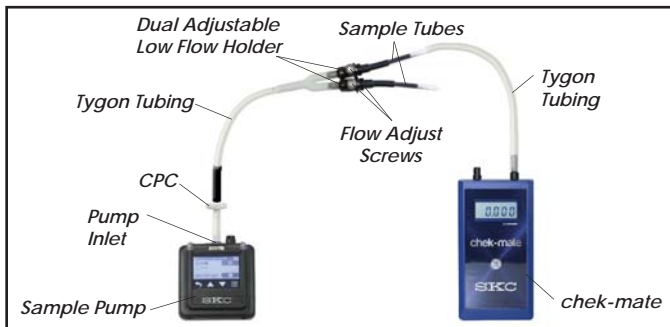

Figure 2. Multiple-tube calibration train with Pocket Pump TOUCH (constant flow mode)
3. Calibrating the Flow Rate — Figure 2